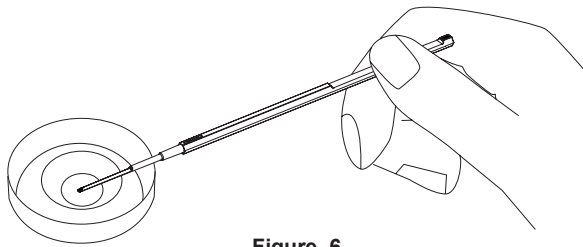

Figure 6
4. Quickly, within 2 seconds, plunge the VitriGuard™ tip with the vitrified specimen(s) facing up into the warming solution (Figure 6).